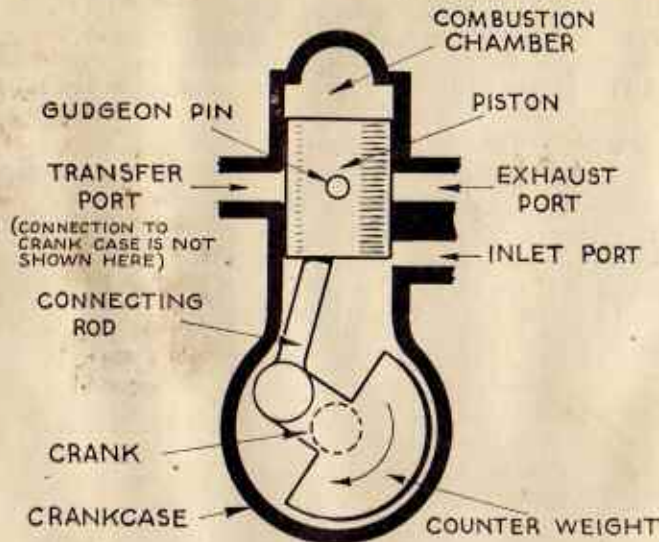

FIG. 2.
**Piston—Connecting Rod—Crank.**—There are only three basic moving parts in the engine, namely the piston, the connecting rod, and the crank. The piston is free to slide up and down in the cylinder (see Fig. 2) and is connected to the crank by means of the connecting rod.